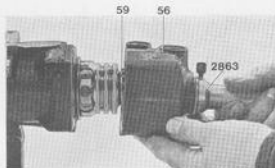

Fig. 6-99. Fitting valve housing
11. Tension out the sealing ring (54) with tool 2863. Place the bearing (59) in position. Fit the valve housing (56), see Fig. 6-99. The tightening torque for the bolts (50 and 52) is 34 Nm (25 lbf ft).